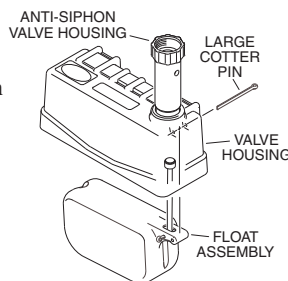

Figure 3
- Position float assembly inside valve housing and slide the large 2-1/4" cotter pin through the housing and the float assembly (see Figure 3). Spread the ends of the large cotter pin open slightly with pliers. When properly installed, the float assembly should pivot freely on the cotter pin inside the valve housing.